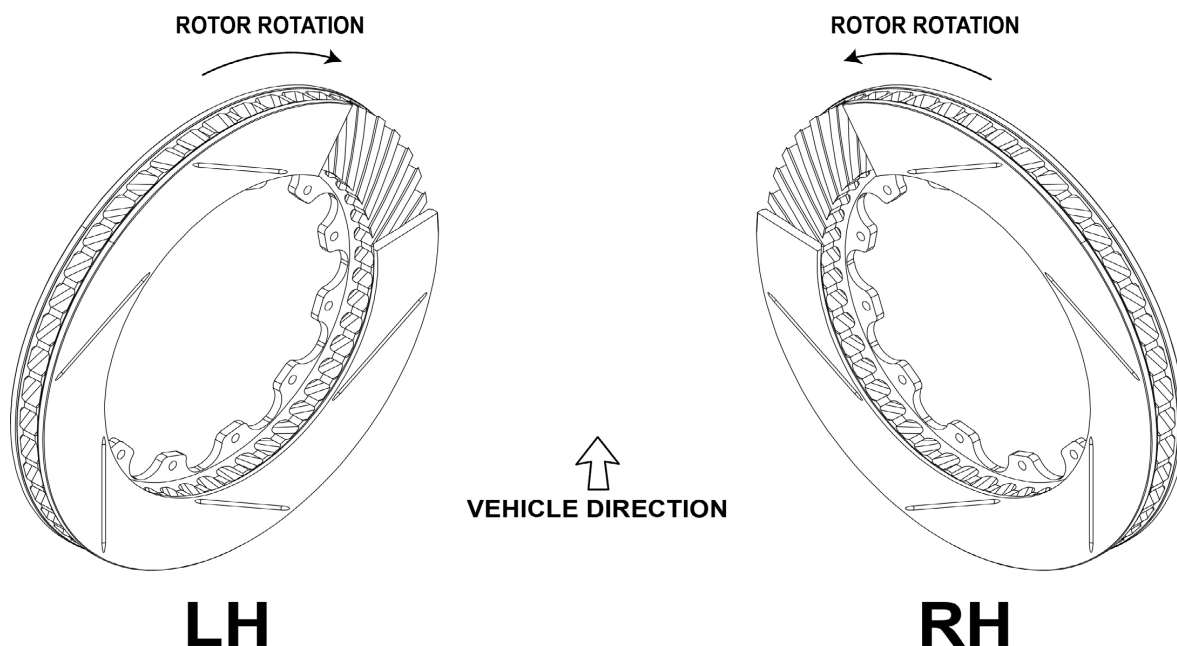

Fig. 1
**NOTE:** 034Motorsport rotors utilize curved directional ventilation vanes. In order for ventilation vanes to cool the rotors efficiently as designed, ventilation vanes must be facing the correct direction. Refer to Fig. 1 for the correct rotor rotation direction & placement. Use direction of ventilation vanes as reference points.